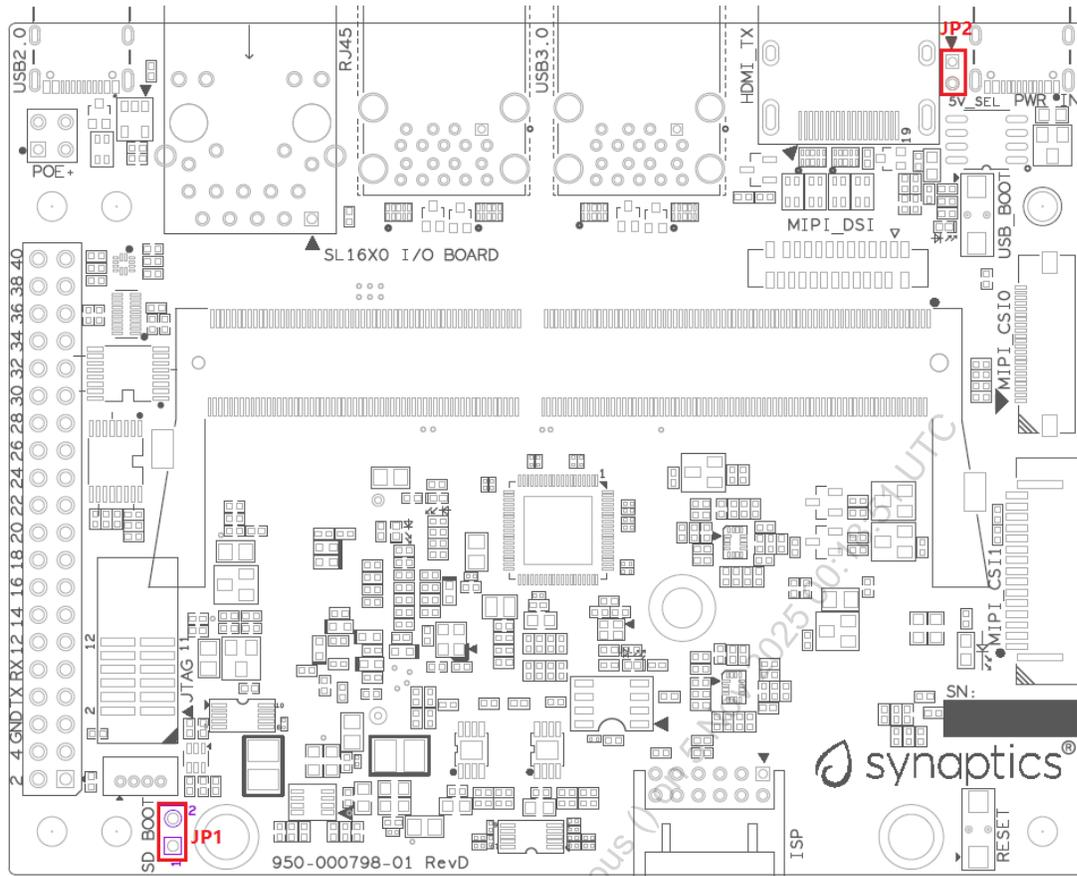
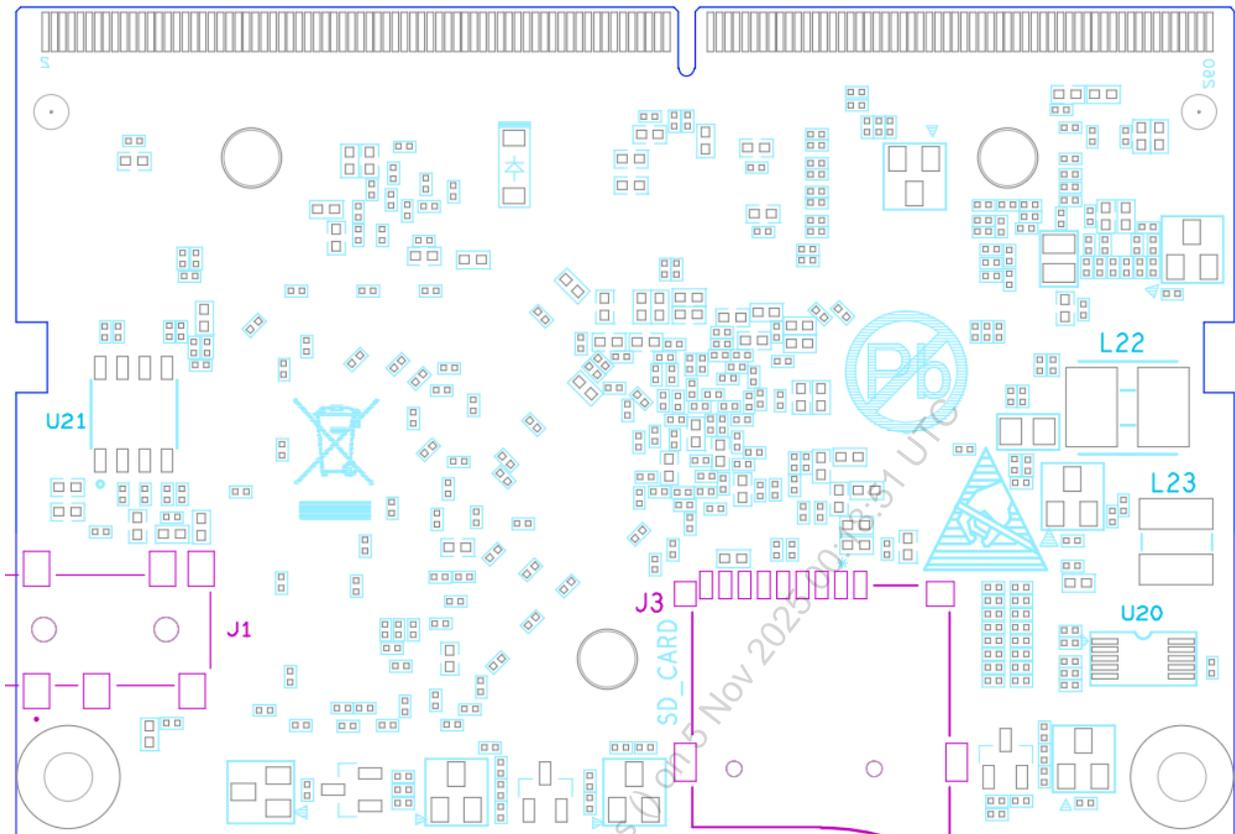

Figure 9. Locations of jumper on I/O board
Figure 11. Locations on core module bottom side
- **SD boot:** Short SD_Boot header by 2.54mm jumper-cap before power-up, see SD_Boot header in Figure 9. Ensure SD-Card with firmware is plugged into SD-slot on core module in Figure 11.
Figure 9 shows the Header locations on the I/O board.